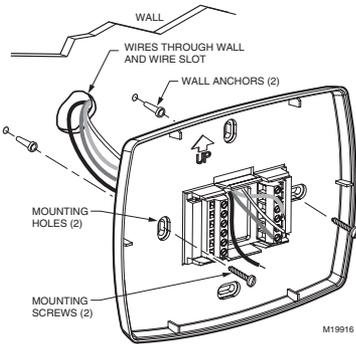

Fig. 2. Mounting wallplate.
4. Position the wallplate over the holes, pulling wires through the wiring opening. See Fig. 2.